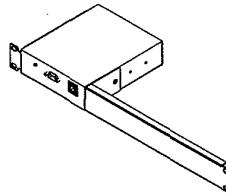

Figure 3: Attach brackets to the controller.
- 1 Attach the brackets (APC part numbers 870-8213 and 870-8183) to the controller using four flat-head screws (provided). Figure 3 shows the brackets attached to the controller.